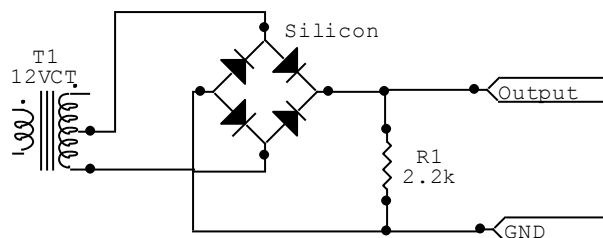

Figure 5.3
1. Construct the circuit of figure 5.3. Obtain your input signal V_{in} from the output of the transformer provided.
2. On the two separate graphs of figure 5.3 sketch the input voltage, V_{in} and the output voltage V_{out} . Also note the vertical and horizontal sensitivity.